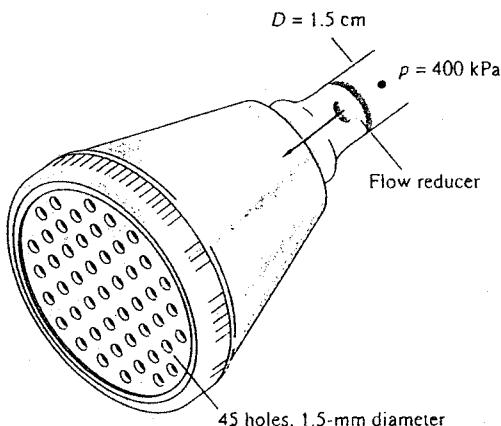

Fig. P6.142
**6.142** The shower head in Fig. P6.142 delivers water at 50°C. An orifice-type flow reducer is to be installed. The upstream pressure is constant at 400 kPa. What flow rate, in gal/min, results without the reducer? What reducer orifice diameter would decrease the flow by 40 percent?